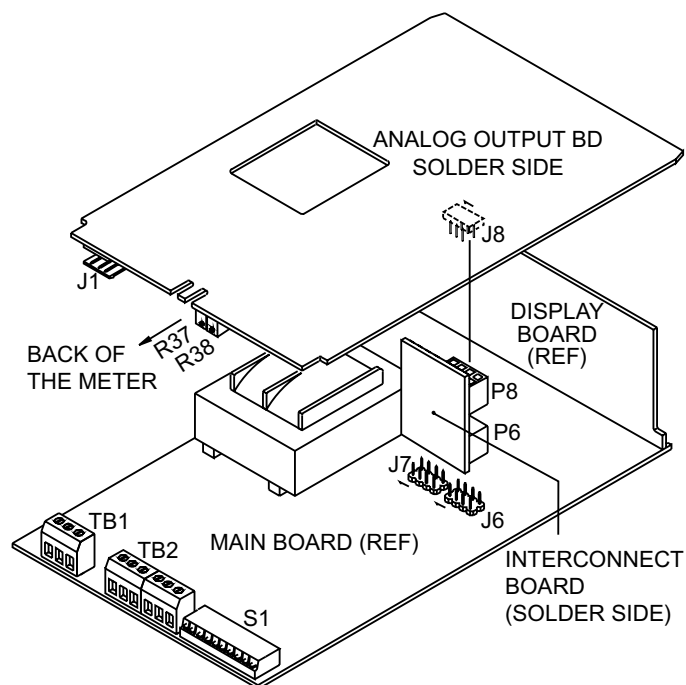

Figure 9-1. Installing the Analog Output Board
Install the analog output board as follows (refer to Figure 9-1):
5. Adjust the input to show a value equal to "Rn L□". Adjust R38 potentiometer at the back of the board (refer to Figure 9-1) for 4 milliamp output (0 volts).